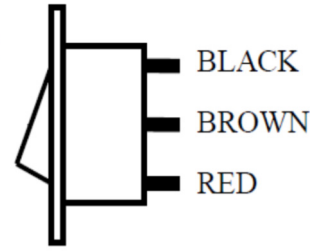

Figure 2. Fan switch
10. Ensure wires to be connected in Figure 2, and then press the switch into the rectangular knocked off rectangular hole, 'II' should be above 'O'. It should snap firmly into place.
11. Ensure wires to be connected in Fig 2, and then press the switch into the knockout rectangular hole, 'II' should be above 'O'. It should snap firmly into place.
9. Ensure switch wires are connected as shown in Fig 2, and then press the switch into the knockout rectangular hole, 'II' should be above 'O'. It should snap firmly into place.